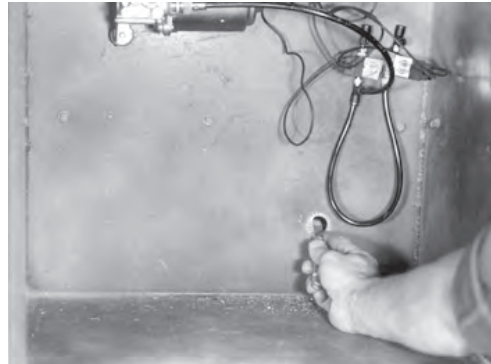

fig. 16
3. Cut off any excess grommet material (Fig. 16).